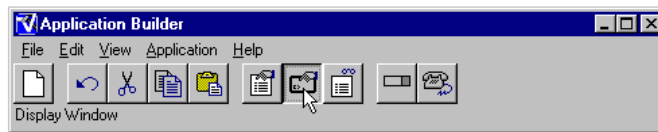
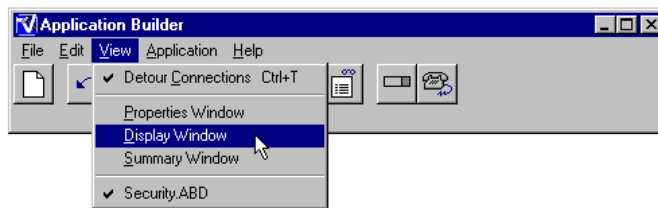

Figure 3-57 Application Builder Toolbar - Display Window Button
Figure 3-58 View Menu - Display Window Command
50. Click the **Display Window** button on the toolbar (Figure 3-57) or choose **Display Window** from the **View** menu (Figure 3-58).